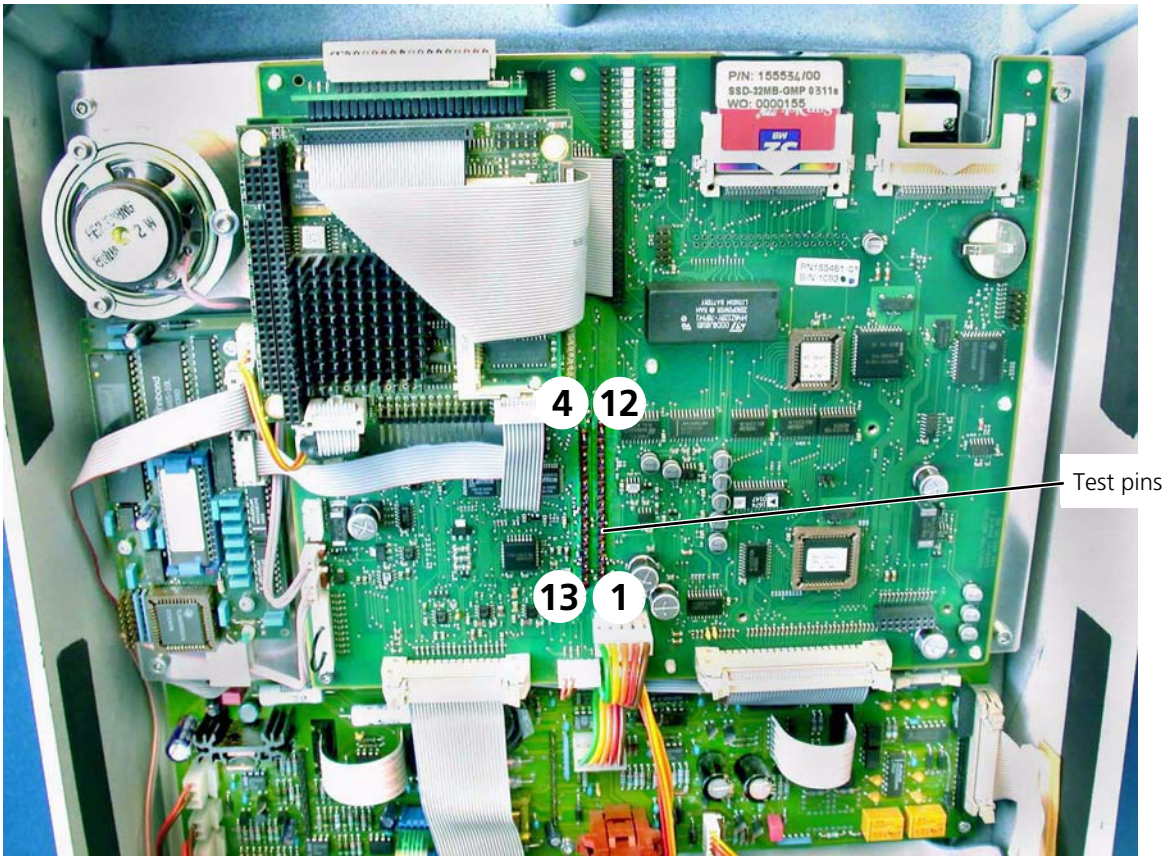

Figure 7-6. The test pins on control board (PN 155461/xx)
1. Locate the test pins 1–12 and 13–20 on the control board. (Figure 7-6.)